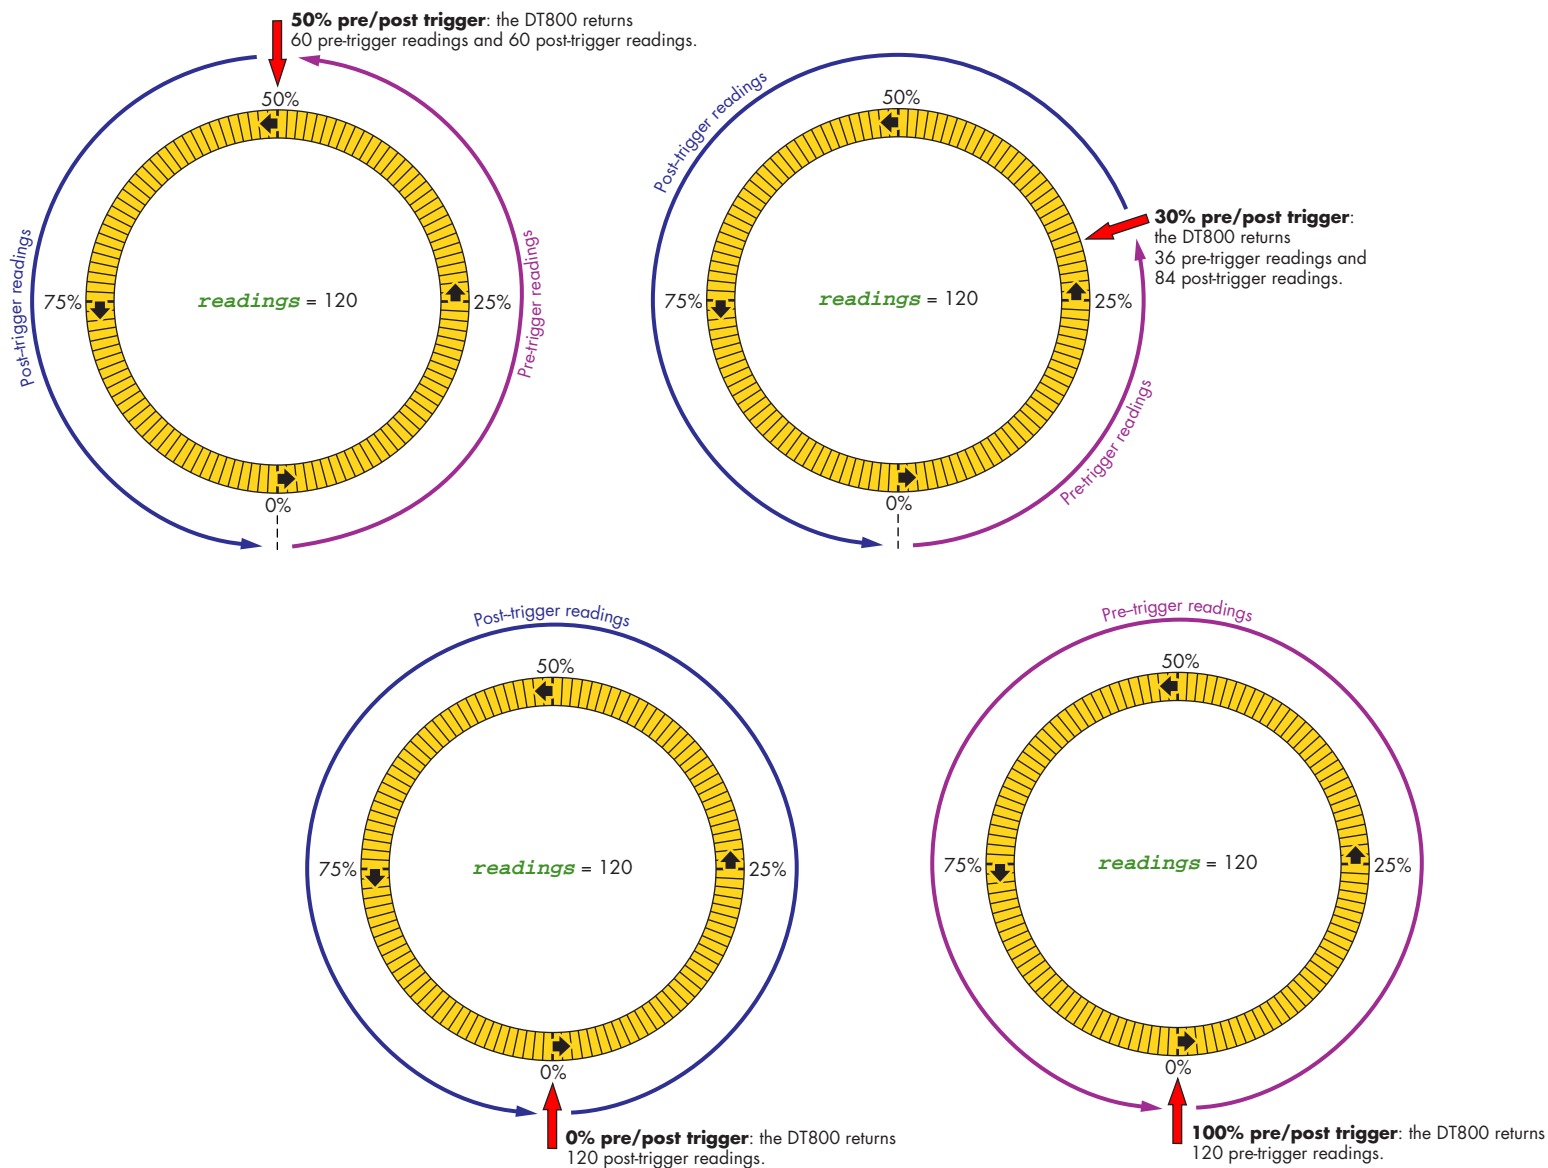

FIGURE 54 Burst pre/post trigger examples (50%, 30%, 0% and 100%)
proportion allocated to post-trigger data (called **pre-trigger memory** and **post-trigger memory**) — see Figure 54.
- For the 120 readings and **50% pre/post trigger position** shown in Figure 54 (page 55), the 50% trigger instructs the DT800 to return a 120-readings burst consisting of the 60 readings taken immediately prior to the pre/post trigger occurring (“pre-trigger”), and the 60 readings taken immediately after the pre/post trigger occurred (“post-trigger”).
- For the 120 readings and **30% pre/post trigger position** shown in Figure 54, the 30% trigger instructs the DT800 to return a 120-readings burst consisting of the 36 readings taken immediately prior to the pre/post trigger occurring (“pre-trigger”), and the 84 readings taken immediately after the pre/post trigger occurred (“post-trigger”).
position	is the pre/post trigger position in the burst memory, expressed as the proportion of pre-trigger readings in %. See examples in “Burst Pre/Post Trigger — Introduction” (page 53), and Figure 54 (page 55). position is optional. If omitted, 100% of the readings are taken after the trigger. Range 0 to 100%